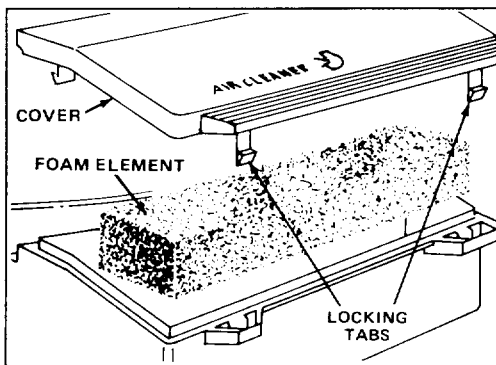

Figure 15
2. Push in locking tabs and lift off air cleaner cover. Clean cover thoroughly (Fig. 15).
3. If top of foam element is dirty, remove it from air cleaner body (Fig. 15). Clean thoroughly.